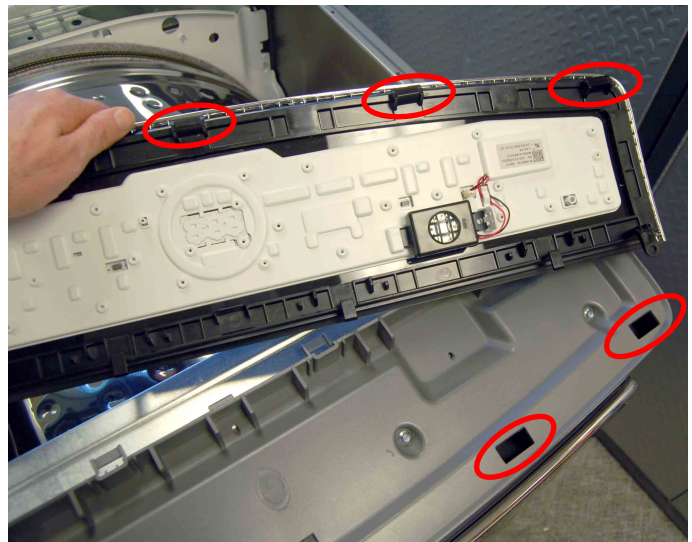

Figure 6
5. To reinstall the UI assembly insert the hooks on the front of the UI into the clip openings on the console frame (as shown in Figure 6). Insure the hooks are all fully inserted. Next, firmly push down on the clips until you hear them snap into place. Reinstall the two (2) 1/4" hex-head screws to secure the UI in place.